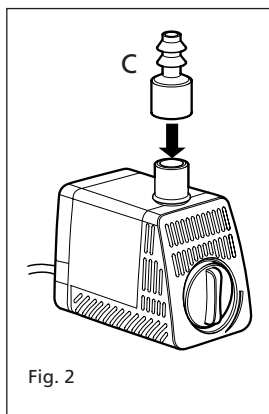

Fig. 2
- Fit a suitable length of hose 12.5mm bore hose on to the hose adaptor. See Fig 2 (C).